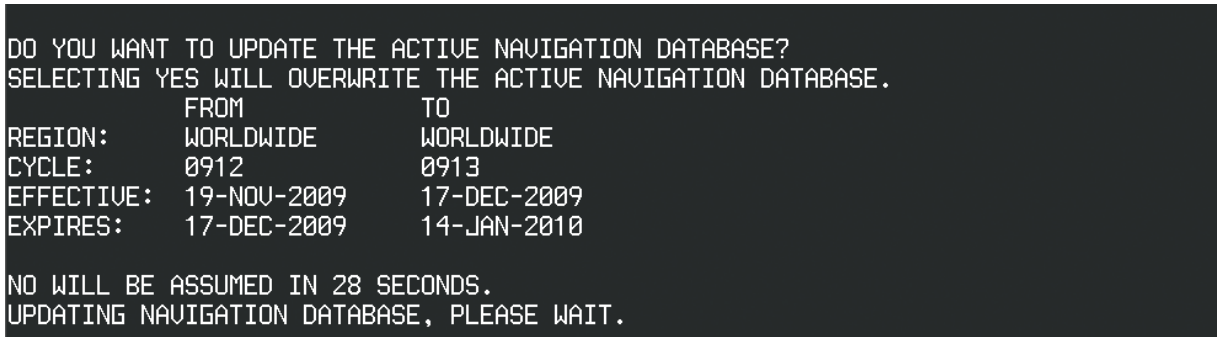

Figure B-11 Active Navigation Database Prompt
- 4) Press the **YES** Softkey. The navigation database is copied to the SD card in the bottom card slot of the MFD. A prompt similar to Figure B-11 is displayed.